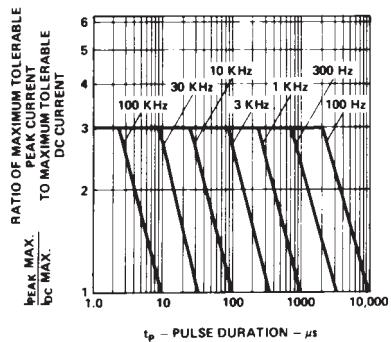

Figure 5. Maximum tolerable peak current vs. pulse duration. ( $I_{DC\ MAX}$  as per MAX ratings)
1. See Figure 5 (Red/Orange), 10 (Yellow), or 15 (Green) to establish pulsed operating conditions.